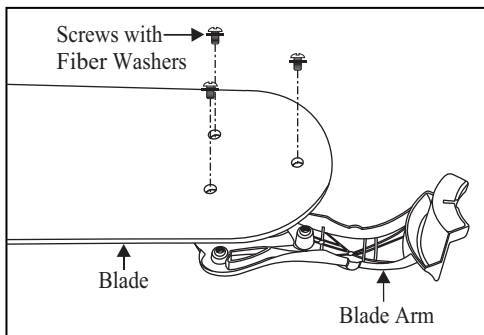

Figure 14
1. Attach blades to blade arm using the screws with fiber washers provided. (Fig. 14) Start a screw into the blade arm, do not tighten. Repeat for the 2 remaining screws and washers.